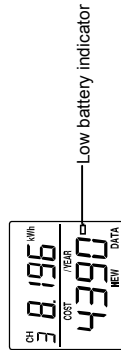

Figure 22
- Low battery indicator is displayed on the LCD when the batteries require changing. (Figure 22) It is performed: after power up.